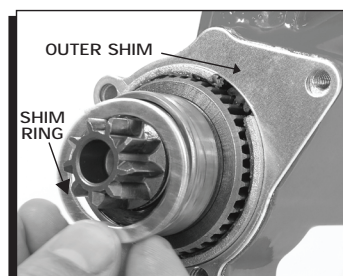

Figure 3 Installing the Pinion Shim Spacers.
- If the clearance exceeds 3/16", you will need to remove the pre-installed shim kit by removing the mounting block (Figure 3). Remove the small shim ring in the bearing bore and the outer shim on the support housing. Reinstall the mounting block. This will move the pinion gear closer to the ring gear approximately 0.060".